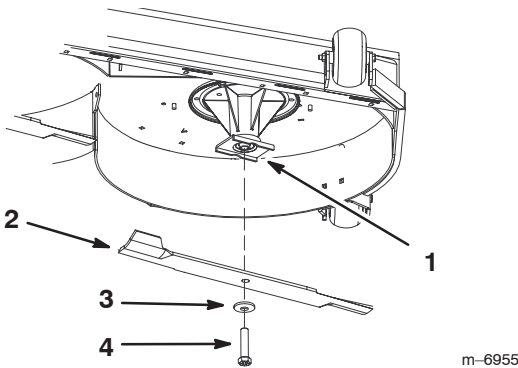

Figure 5
Important The sail part of the blade (i.e., the turned up section) must face the inside of the mower (Fig. 5).
1. Install the new blades to the spindles with washers and blade bolts that were previously removed (Fig. 5).